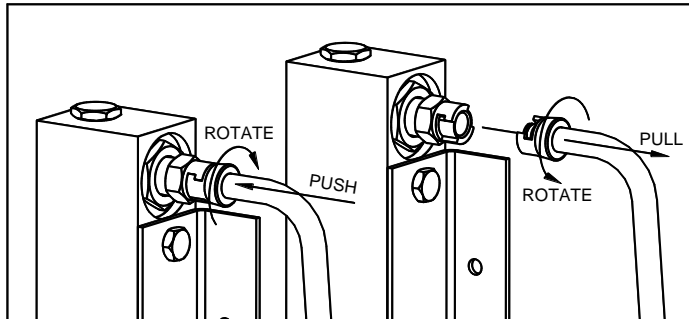

Figure 3: Quick Disconnect Fitting at Flowmeter
- 4) Pull the sensor assembly forward a few inches and disconnect the "quick-disconnect" fitting at the top of the flowmeter (for standard downstream sensor configuration) by pushing both halves of the fitting together and rotating one to the release position. See Figure 3.